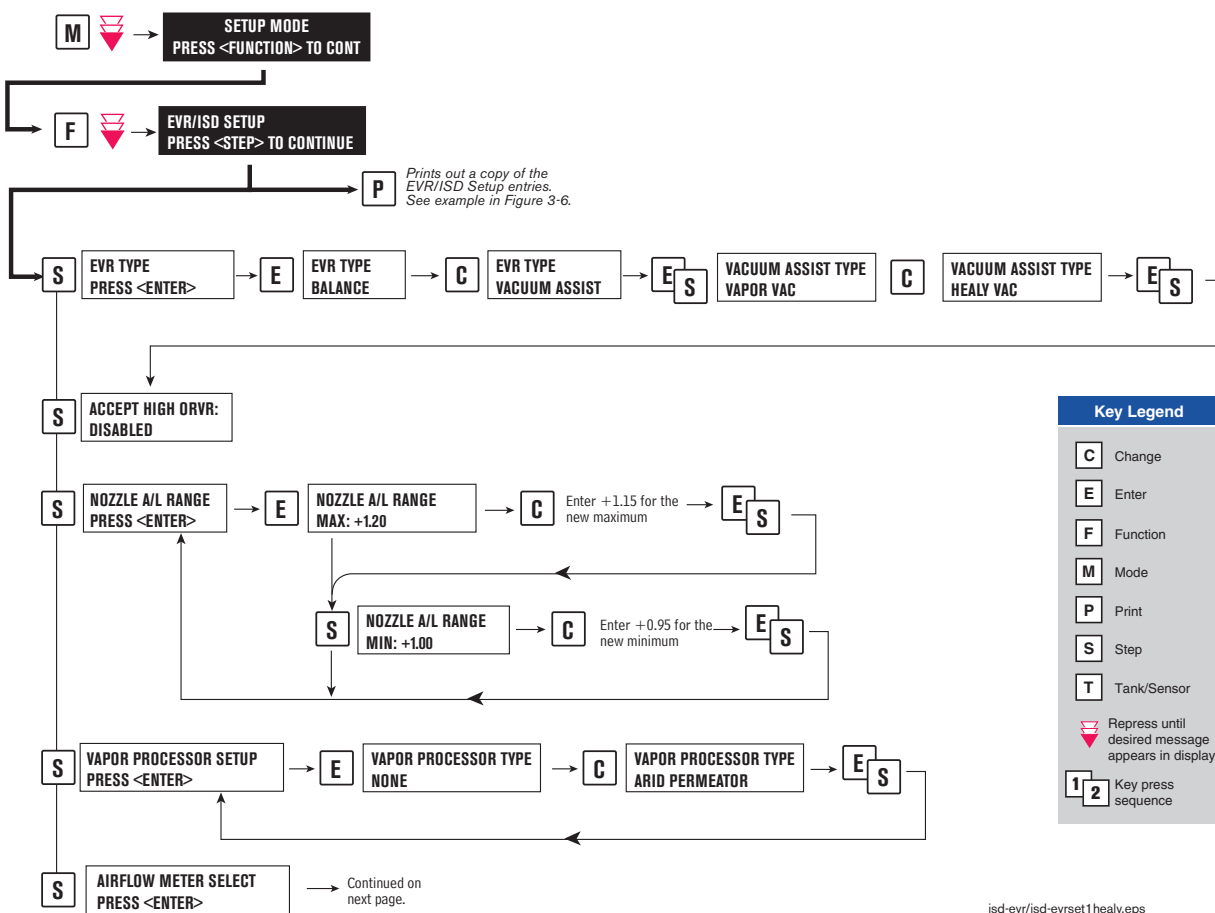

Figure 6. EVR/ISD Setup 1
- EVR/ISD Setup - All ISD sites - Figure 6, Figure 7, Figure 8
Figure 6, , and Figure 8 diagram the EVR/ISD setup programming. Start with the first figure, continue to the second, and finish in the third. Figure 9 shows an example printout of the EVR/ISD setup.